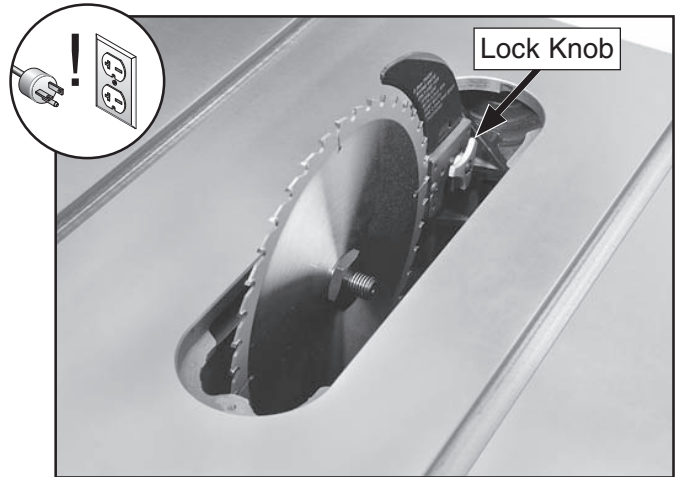

Figure 135. Lock knob location.
4. Tighten the lock knob (see **Figure 135**), then re-install the table insert.